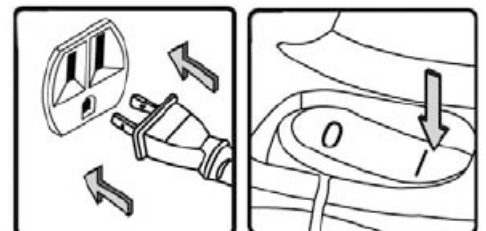

Figure 12
- 8) Start the vacuum by pushing the On/Off switch to the On position as shown in Fig.12. The On position is indicated by the international symbol "I" on the switch.